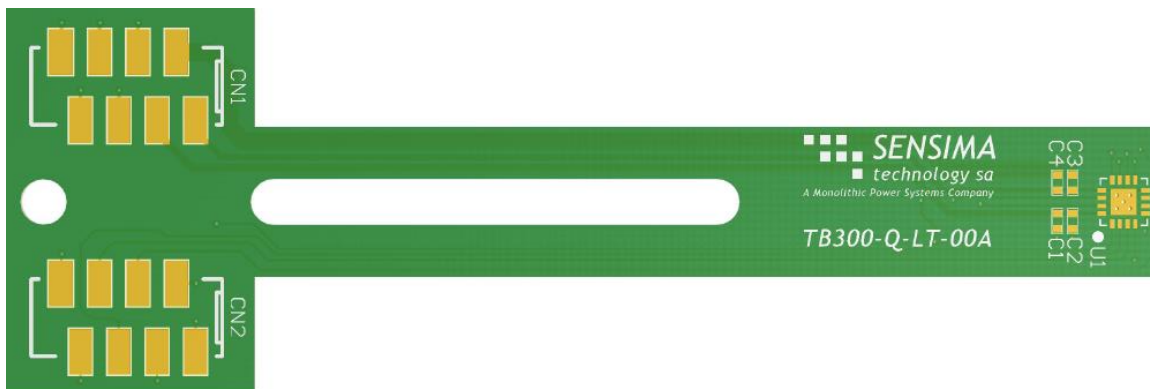

Figure 4: LT Board Overview Type 1
Figure 4 shows an overview of the Type 1 long (LT) board type.